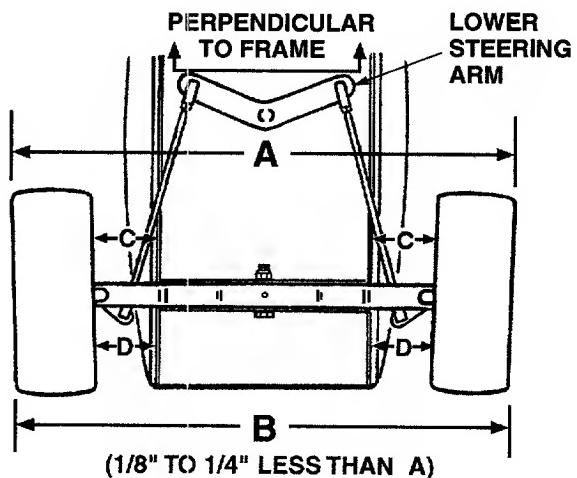

Figure 13. Viewed from beneath the tractor.
The front wheels should toe-in approximately 1/8 to 1/4 inch, as measured across dimensions A and B shown in Figure 13.
- Check the lower steering arm to ensure it is perpendicular to the tractor frame (See Figure 13).
- Rotate the wheels to position the marks at the front *horizontal* diameter of the wheels, then measure the distance between the marks and the bottom edges of the tractor frame channels (See measurement D in Figure 13). These two measurements should be equal.
- Rotate the marks to the rear *horizontal* diameter and measure the distance between the marks and the frame (See measurement C in Figure 13). Measurement D should be approximately 1/16 to 1/8 inch less than measurement C on each side of the tractor.